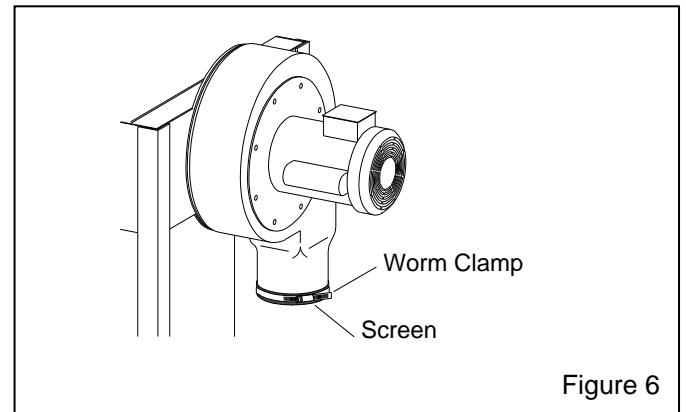

Figure 6
**2.5. Exhauster Outlet Screen – Figure 6**